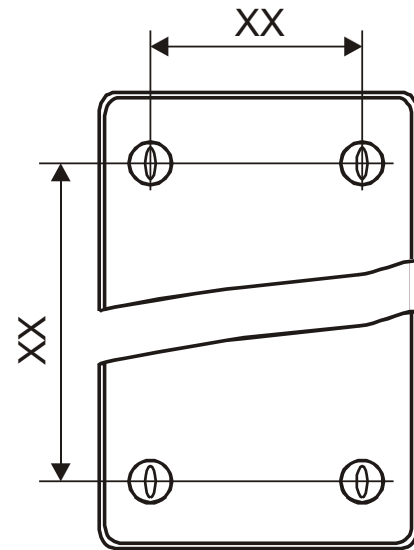

Figure 2: Mounting of Controller
- Fix the unit to the wall at the 4 marked fixing points on the back of the housing (see Figure 2) so that the sensor is always directed vertically to the ground.